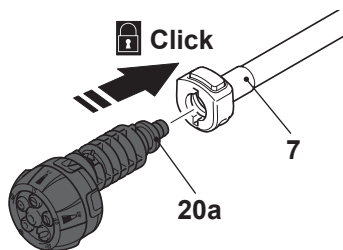

Fig. 4
3. Align the tongues (20a) of the 5 in 1 nozzle with the grooves of the extension lance (7) connection port (Fig. 4).